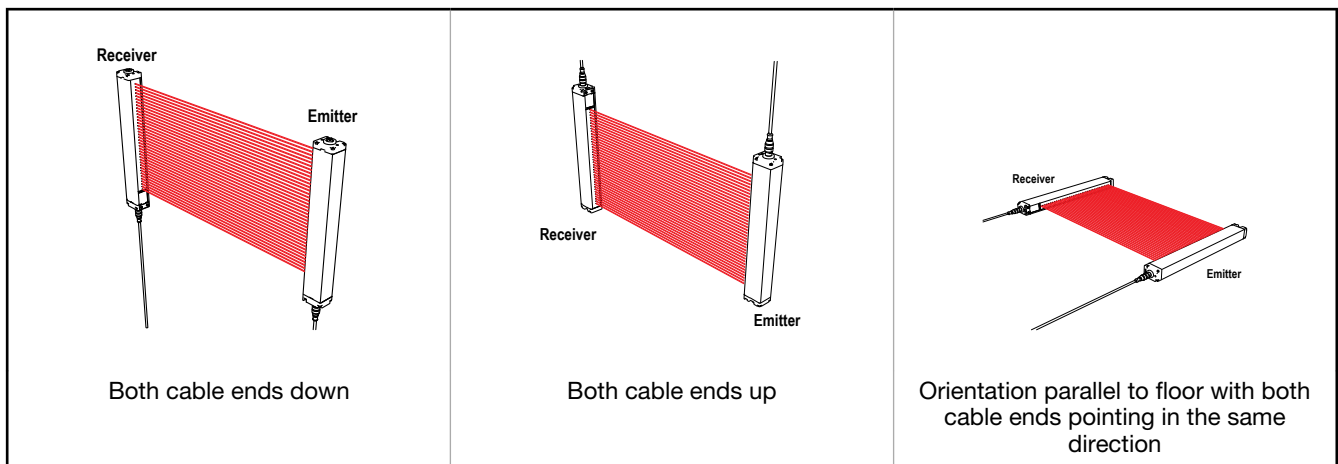

Figure 12. Examples of Correct Emitter/Receiver Orientation
**Important:** The connector ends of both sensors must point in the same direction (see Figure 12 on page 25). Loosely mount the brackets to the desired surface using the supplied M5 bolts and nuts, or user-supplied hardware. Brackets may face in or out, as desired.
3. Position the emitter and receiver in their brackets, as shown in Figure 12 on page 25. Loosely attach the front bracket plate to the bracket, at each end.
**Important:** The connector ends of both sensors must point in the same direction (see Figure 12 on page 25).